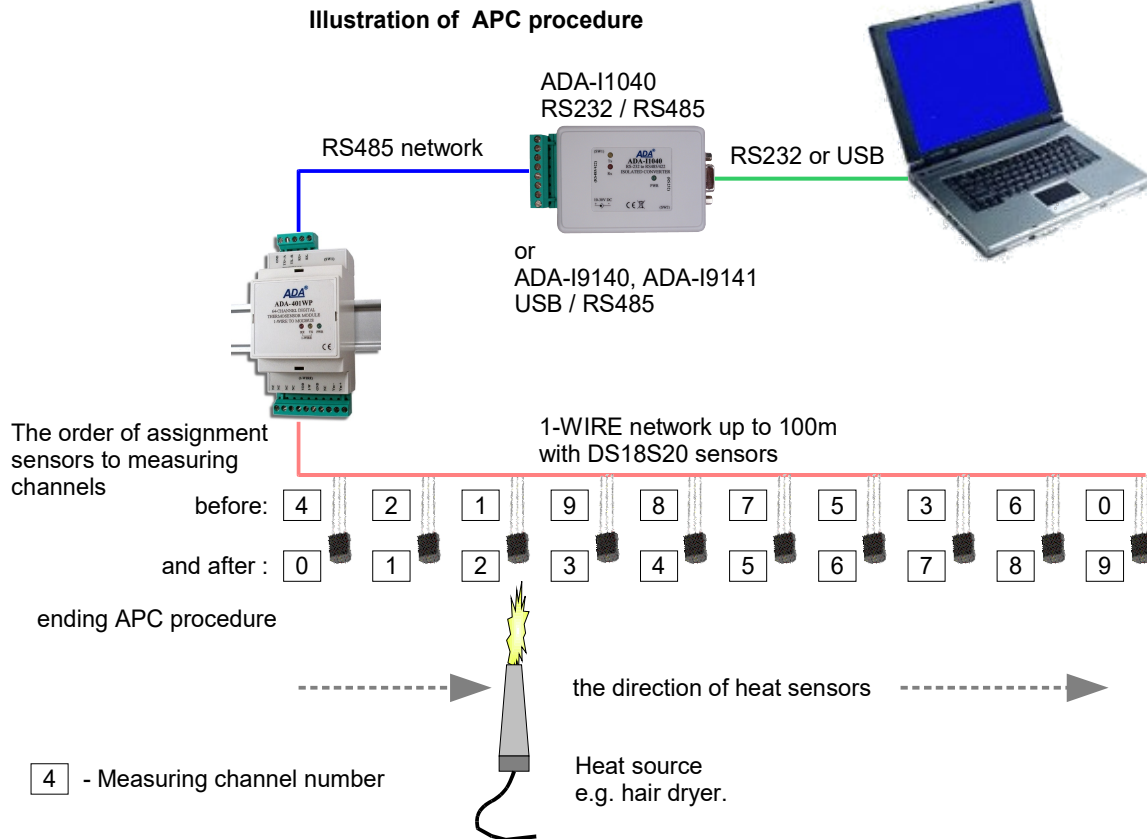

Fig 9. Visualization of Automatic Assign Temperature Sensor to Measure Channel
7. Then heat sensors in the selected order (Fig.9) and if sensor temperature exceeds the seted temperature AAS, sensor will be automatically assign for measuring channel. Any assignment of a sensor for measuring channel is indicated by the module and program of short tone/Beep.